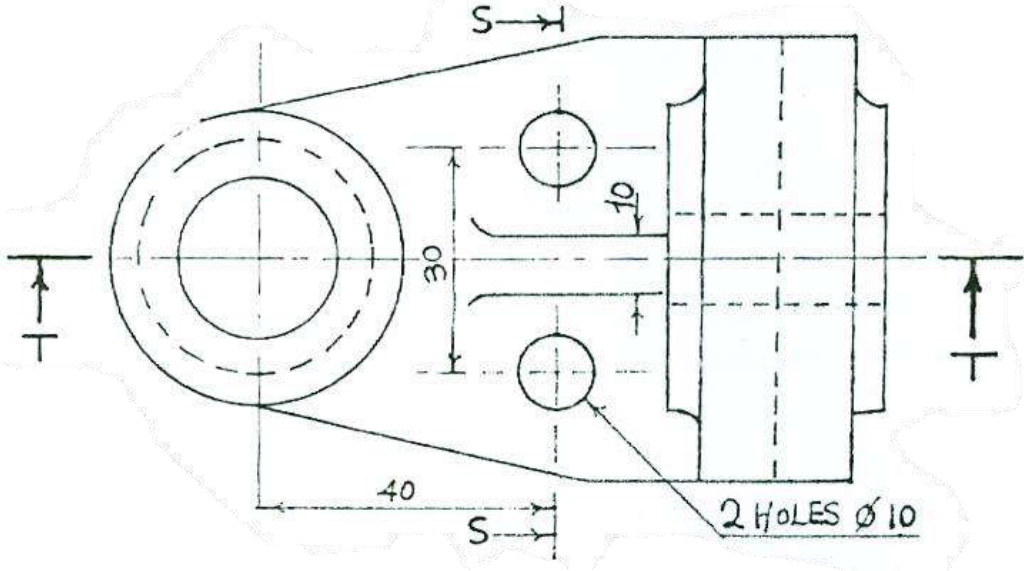

Fig. 4
14. Fig 4 shows a plan of a mechanical object to be used in installing a lift in an apartment, Using appropriate drawing instruments draw the sectional view along plane s-s.